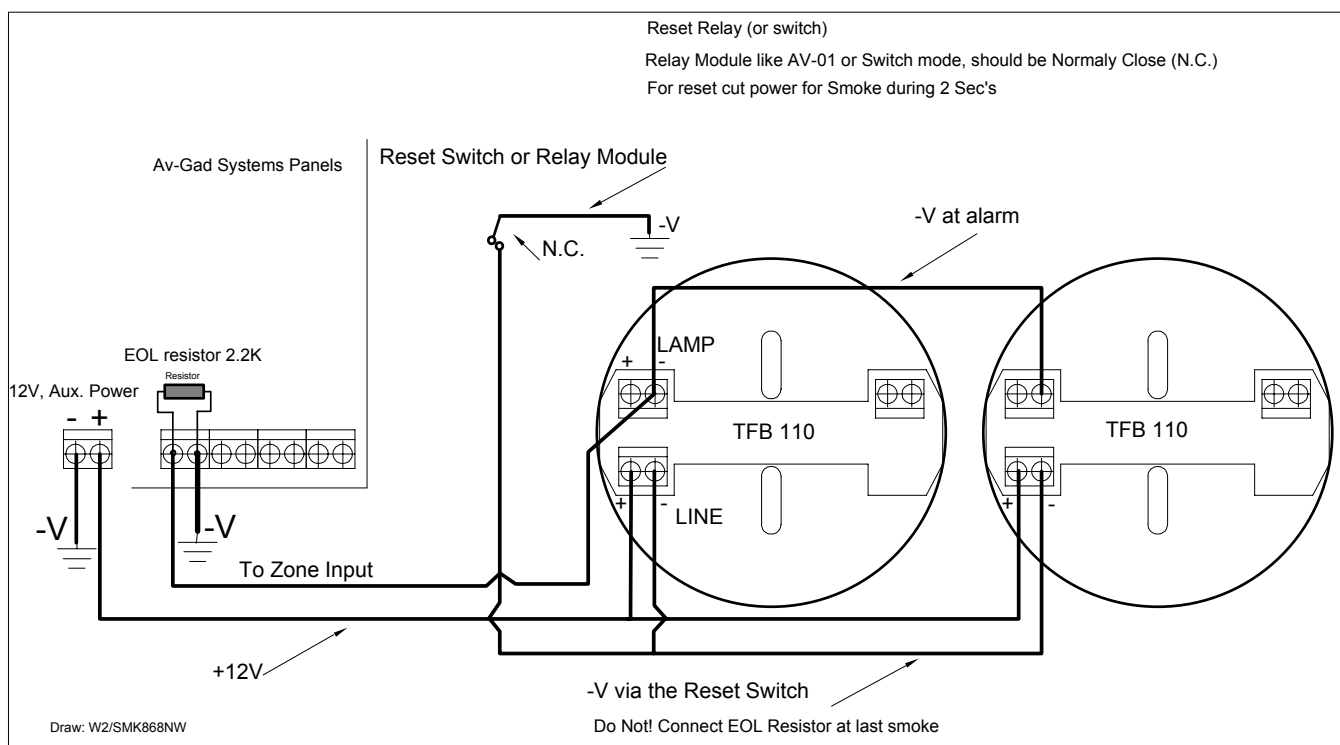

Figure 1: TF base smoke wiring to Av-Gad panels
Connect the relay common terminal to +12V Aux. Power, the N.C. contact to the smoke + Power input terminal. The relay coil is energized by applying -12V from the alarm panel SLO terminal and constant +12V, refer to Fig. 1 drawing. To reset the smoke interfaced to EasyLoader panels, hold-down key 9, or use a manual N.C. switch (replace the relay).